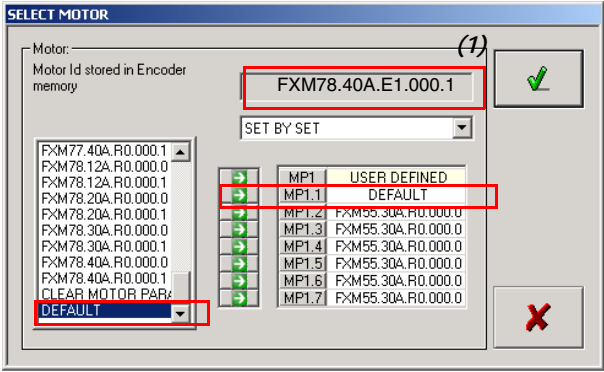

FIGURE S2-9
From drive software version v06.08 on, the <motor selection> window shows the **DEFAULT** option. Thus, when selecting this option and assigning the motor ID stored in the encoder memory integrated into the motor itself - see (1) in the - **FIGURE S2-9** - to, for example, parameter MP1.1 - see **FIGURE S2-9** - it sets MP1.1 with this value and all the parameters of the M group are set to their default values.